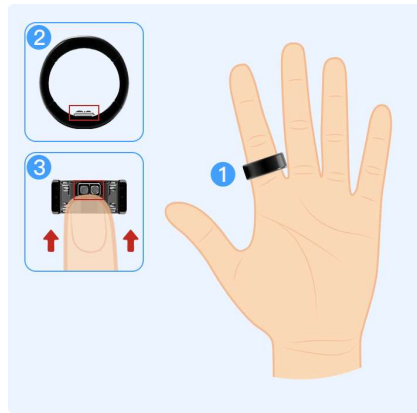

**Figure 6**
(3) Wear the ring as shown in **Figure 6**: